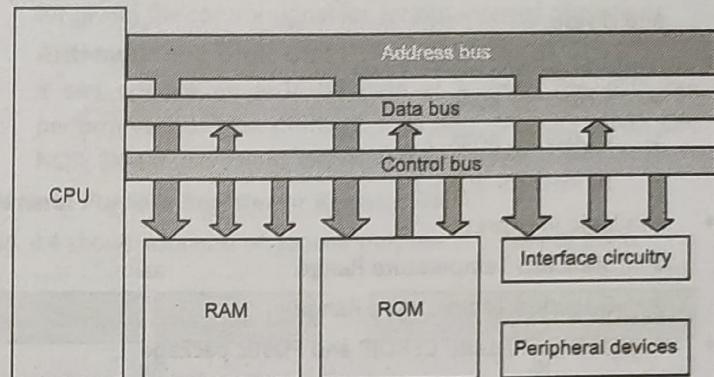

Fig. 4.1 : Simple microprocessor system
- Fig. 4.1 shows a simple microcomputer system with the CPU as its heart, peripheral devices for inputting and outputting data (Like keyboards and monitors), and various memories for storage of data. All these units are interfaced to it through the address, data and control buses.